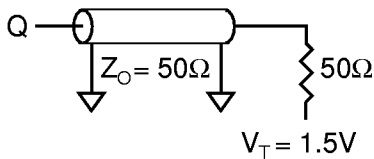
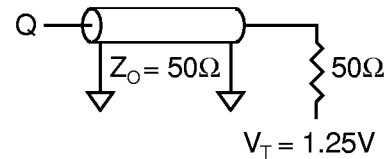

Figure 1
Figure 3
8. Test conditions as specified with output loading shown in Figure 1 for 3.3V I/O ($V_{DDQ} = +3.3\text{V} +0.3\text{V}/-0.165\text{V}$) and Figure 3 for 2.5V I/O ($V_{DDQ} = +2.5\text{V} +0.4\text{V}/-0.125\text{V}$).
Output load	See Figures 1 and 2
Output load	See Figures 3 and 4